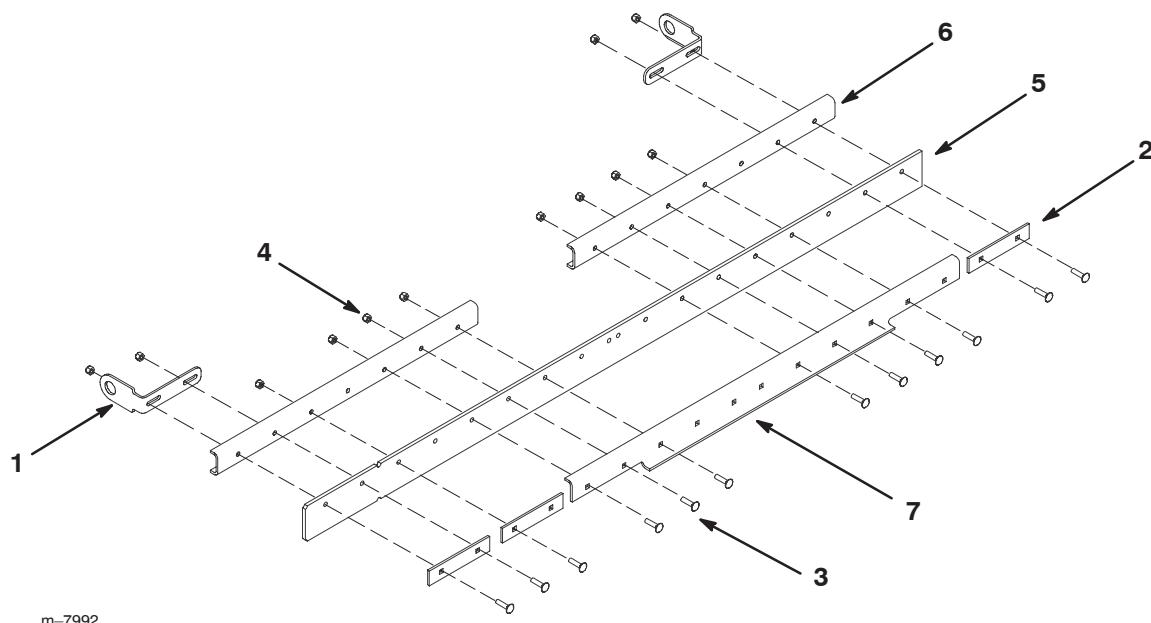

Figure 11
2. Install two carriage bolts (5/16 x 1-1/4 inch) through the support plate, wiper, striping bar, and pivot mounts as shown in Figure 11.
5. Install the rear bar and extra support plate as shown in Figure 11 using 10 carriage bolts (5/16 x 1-1/4 inch) and 10 lock nuts (5/16 inch).